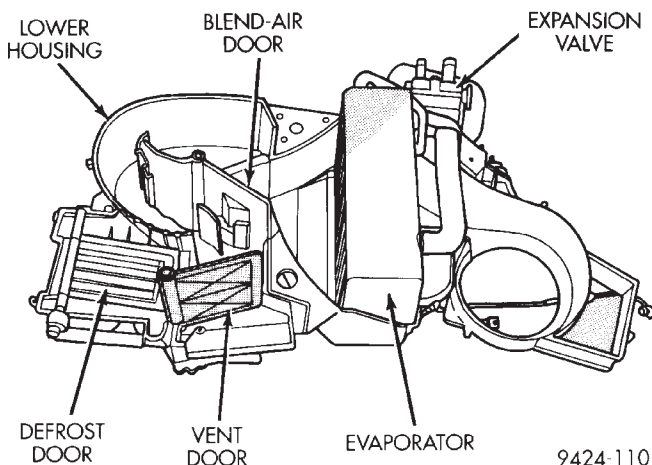

Fig. 42 Lower Housing
- (6) Remove upper half of heater housing (Fig. 42).